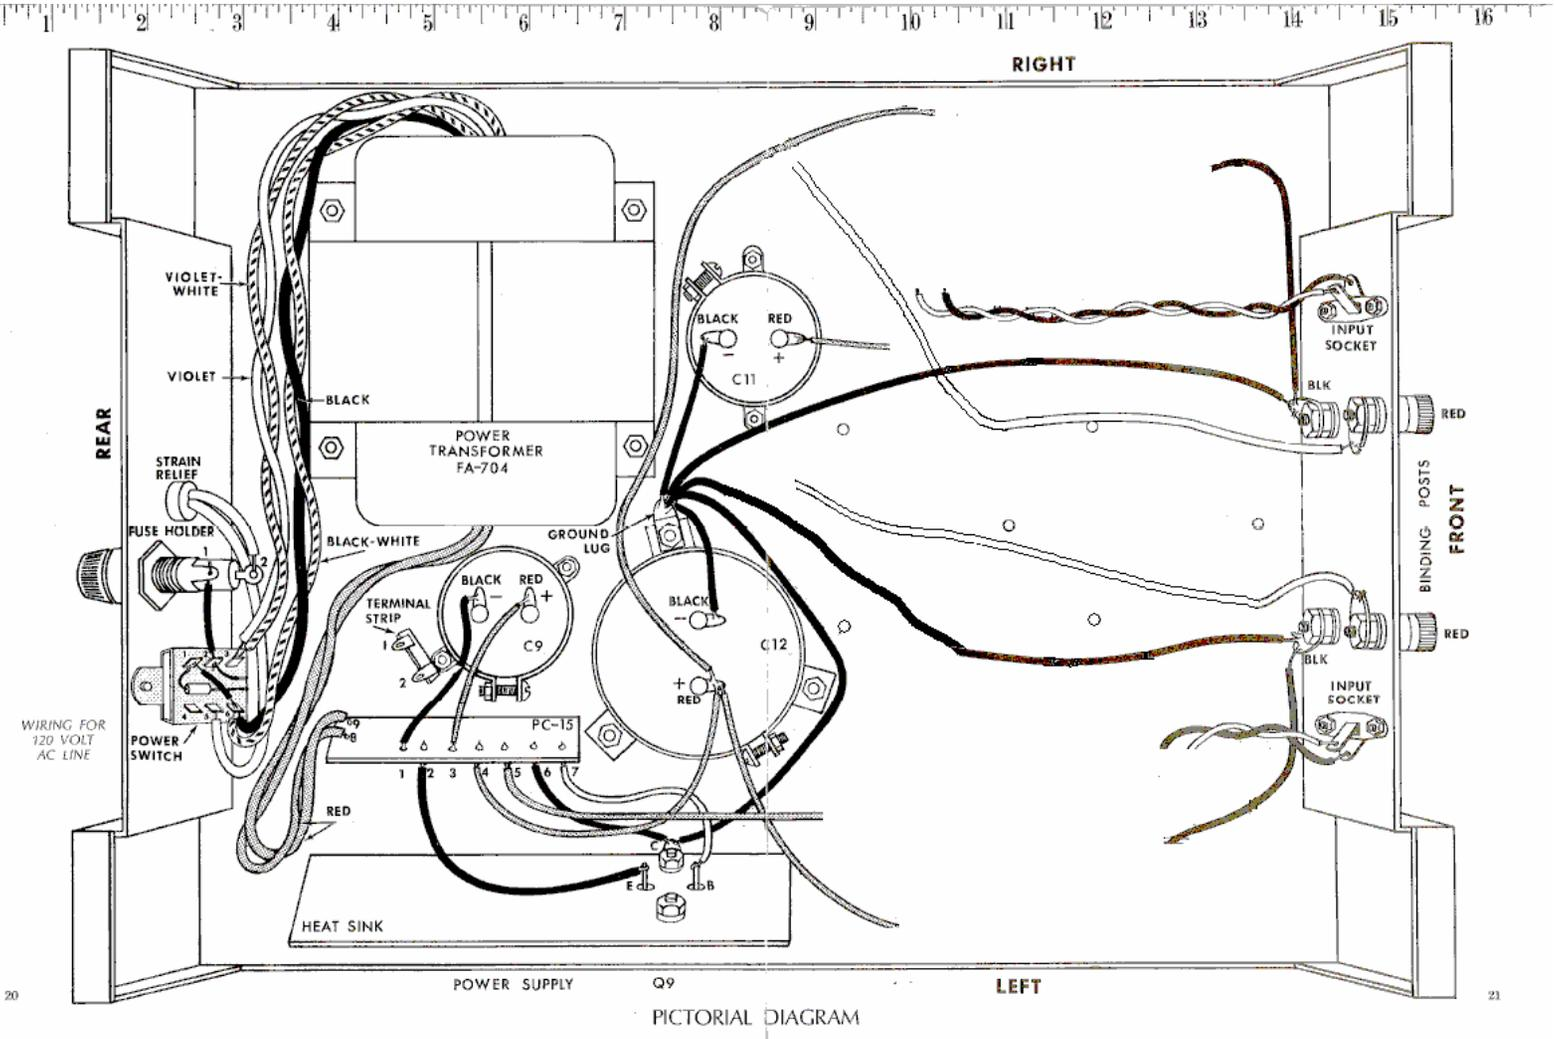

Figure 4- Removal of components is completed
Figure 4 shows what the amplifier should look like when you've completed this step.
1. Remove the old C9 (Refer to Figure 4).
- a. Clip the red and black wires that attach to C11, cutting them near the terminals of C11 (See Figure 4).